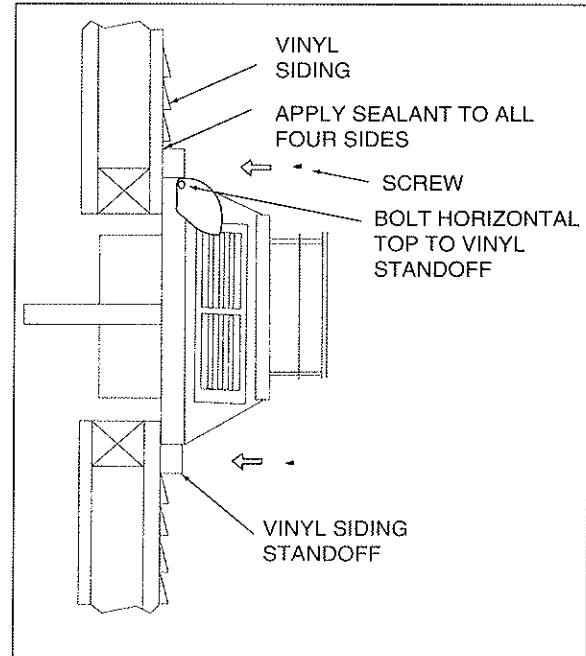

Figure 9
Vent termination must not be recessed into the wall or siding. Figure 9 illustrates termination cap locations and minimum dimensions for each termination application. Or, follow ANSI Z223.1, latest edition.
4. Vertical rise on the exterior. For installations requiring a vertical rise on the exterior of the building, 14-inch and 36-inch tall Snorket Terminations are available. Follow the same installation procedures that are used for standard horizontal termination found in Step 4. See Figure 9.